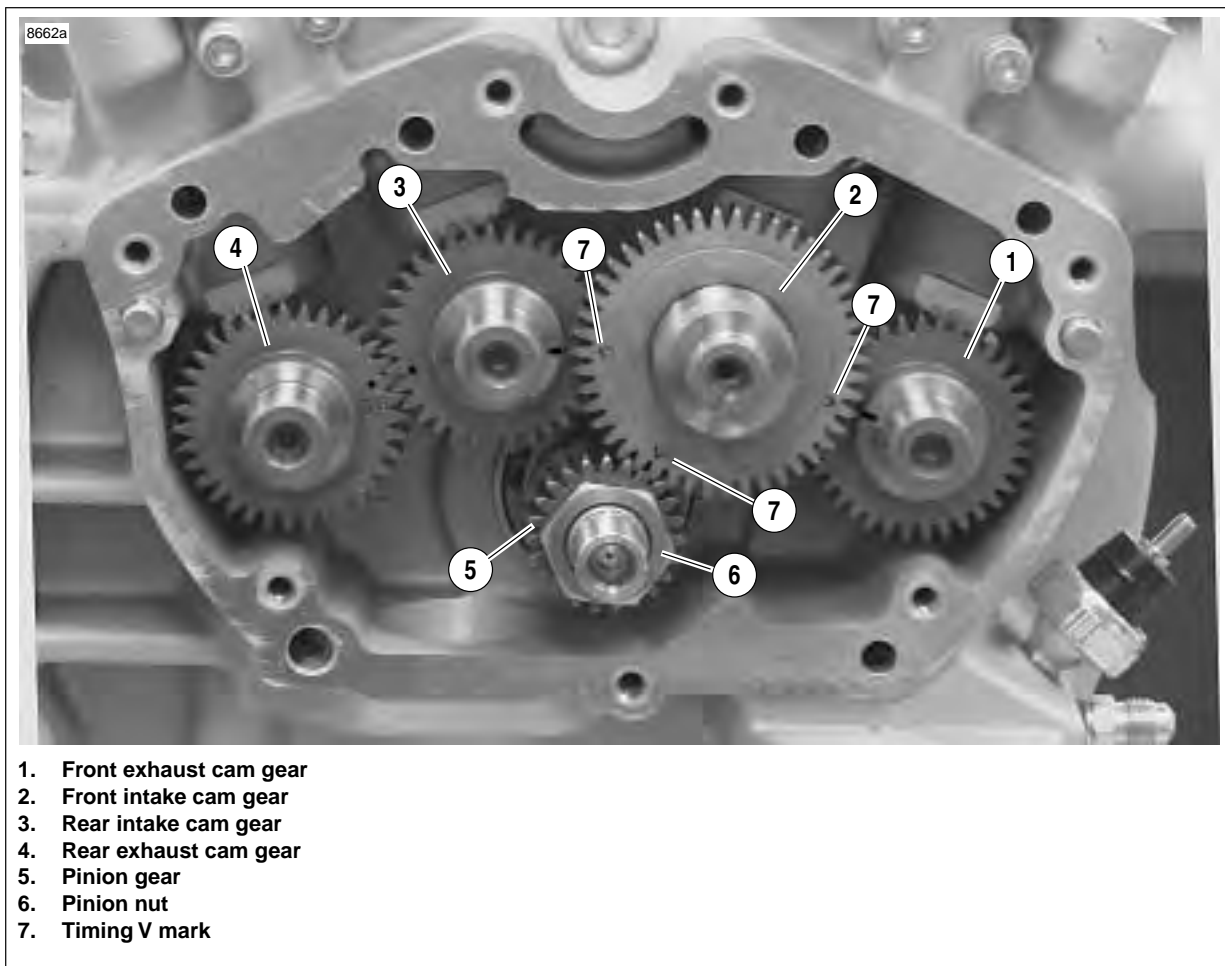

Figure 3-127. Cam and Pinion Gear Location and Timing Mark Indexing
8. See Figure 3-127. Remove cam gears (1, 2, 3 & 4).
See Figure 3-127. The timing marks are located on the front intake cam assembly (2). Note the "V" marks.